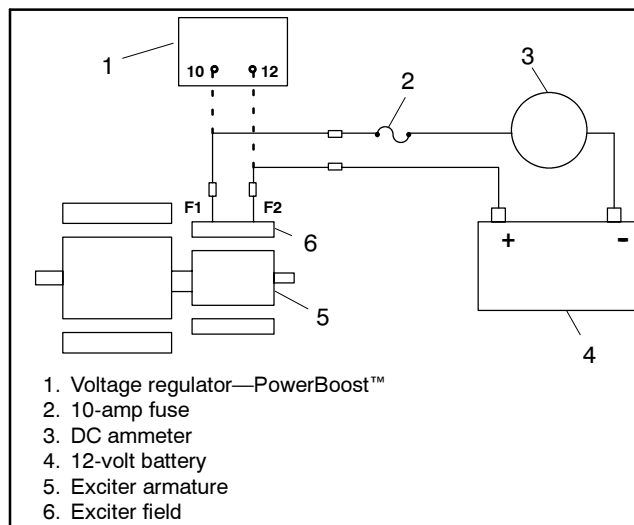

Figure 5-11 Separate Excitation Connections
3. Connect separate excitation circuit as shown in Figure 5-11. Connect an ammeter and a 10-amp fuse in series with F1. Note and record the ammeter reading.